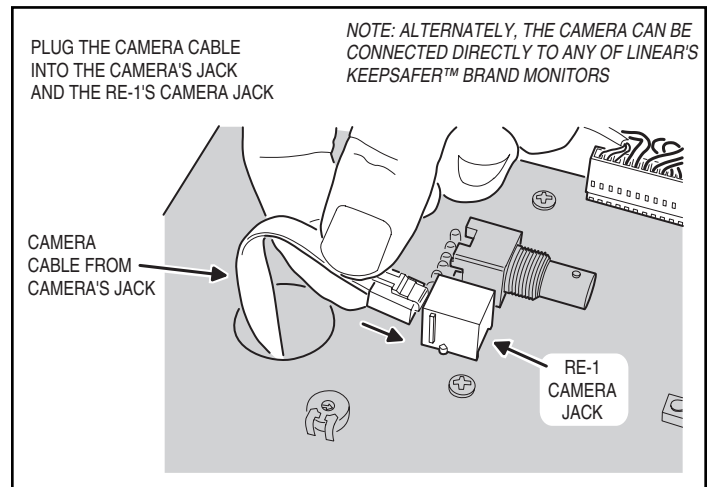

Figure 20. Connecting the Camera Cable
5. Plug the double-ended modular cable into camera's jack and the RE-1 **CAMERA** jack (see Figure 20).